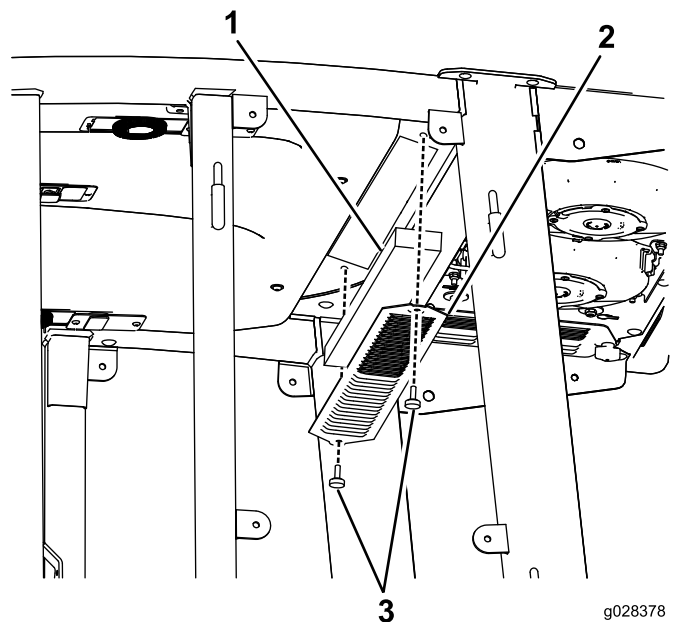
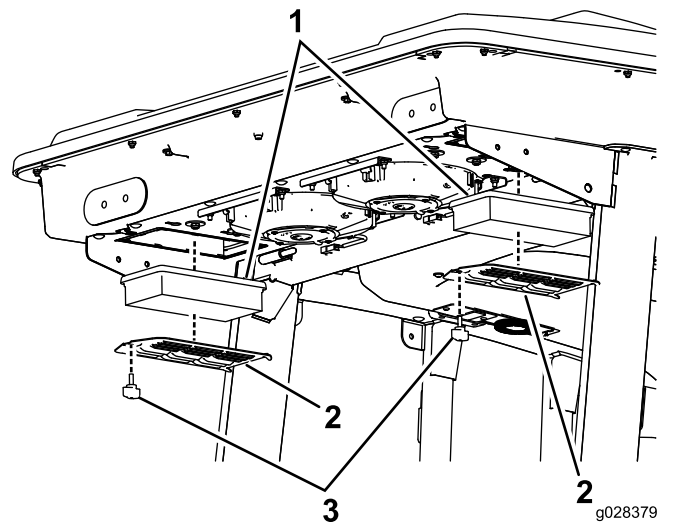

Figure 54
Figure 55
1. Remove the screws and grates from both the in-cab and rear cab air filters (Figure 54 and Figure 55).